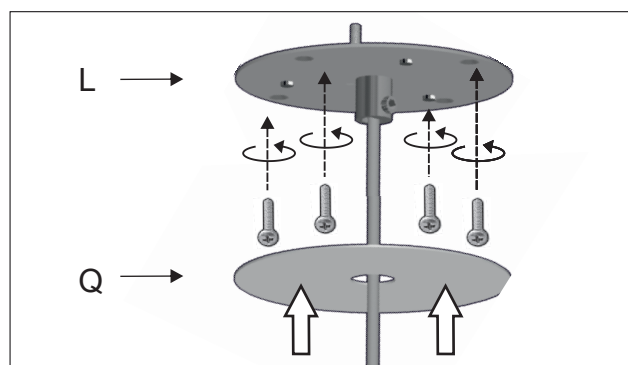

Figure 13
Attach the mounting bracket (L) to the ceiling and install the metal base (Q) back in place. Figure 13.